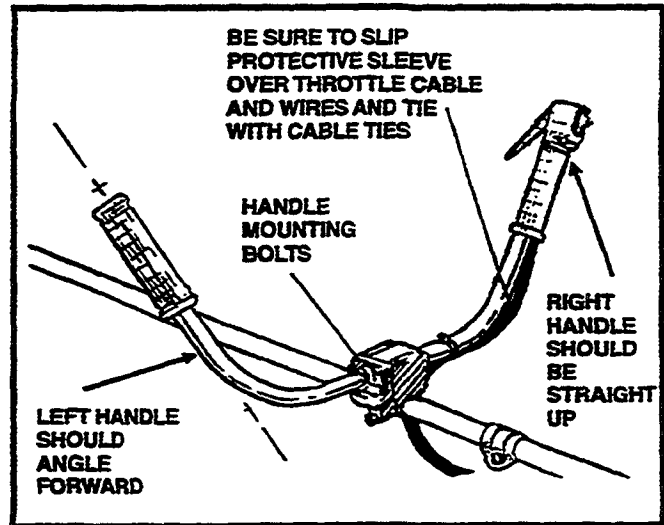

Figure 2
#### 2. INSTALLING MID-HANDLE (Figure 2)
- Loosen the four bolts on the handle clamp and slip handle ends into clamp so the ends meet in the middle. Note: Right side handle has throttle and stop switch assembly mounted on it (Figure 2).
- Adjust handles for operator control and comfort and tighten the four (4) clamp bolts evenly and securely.